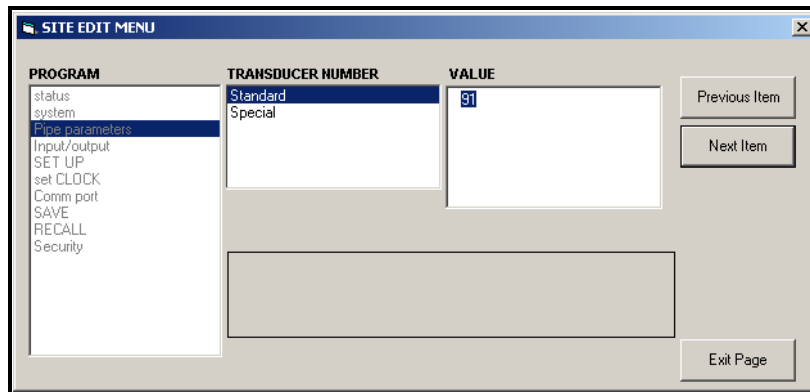

Figure 38: Pipe Parameters Option in Site Edit Menu
- Highlight and double-click on the desired option in the left pane. Figure 38 shows the first entry (Transducer Number) in the Pipe parameters option. The title above the center pane lists the current entry, while the center pane displays the available selections for that entry.